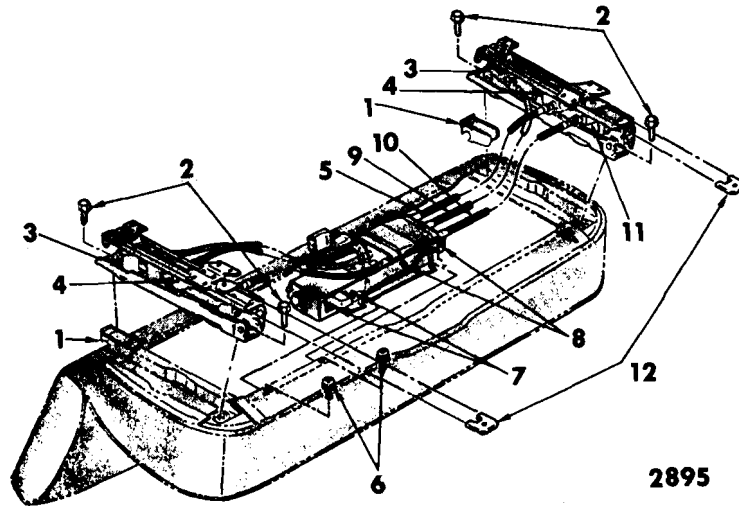

Fig. 15-20—Front Seat Assembly—Six-Way - "B & C" Full Width Seat
3. Remove motor and transmission support-to-seat frame attaching bolts (Fig. 15-20).
3. Remove screws securing horizontal and vertical cable end plate on side of transmission from which cables are being removed (Fig. 15-20) and remove cables from seat assembly; then, disengage cables from end plate.
and horizontal actuator as shown in Figure 15-20).
3. Remove screws securing horizontal and vertical cable end plate on both sides of transmission and detach cables from transmission (Fig. 15-20).
4. Remove transmission to support attaching bolts (Fig. 15-20); then, disengage transmission from motor drive coupling and remove transmission from seat assembly.